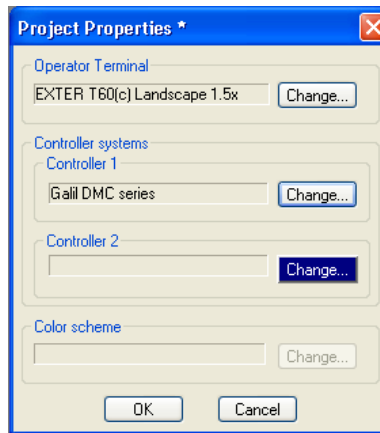

Figure 1: Project Properties Window
7. When completed, the “Project Properties” window should look like Figure 1 below: